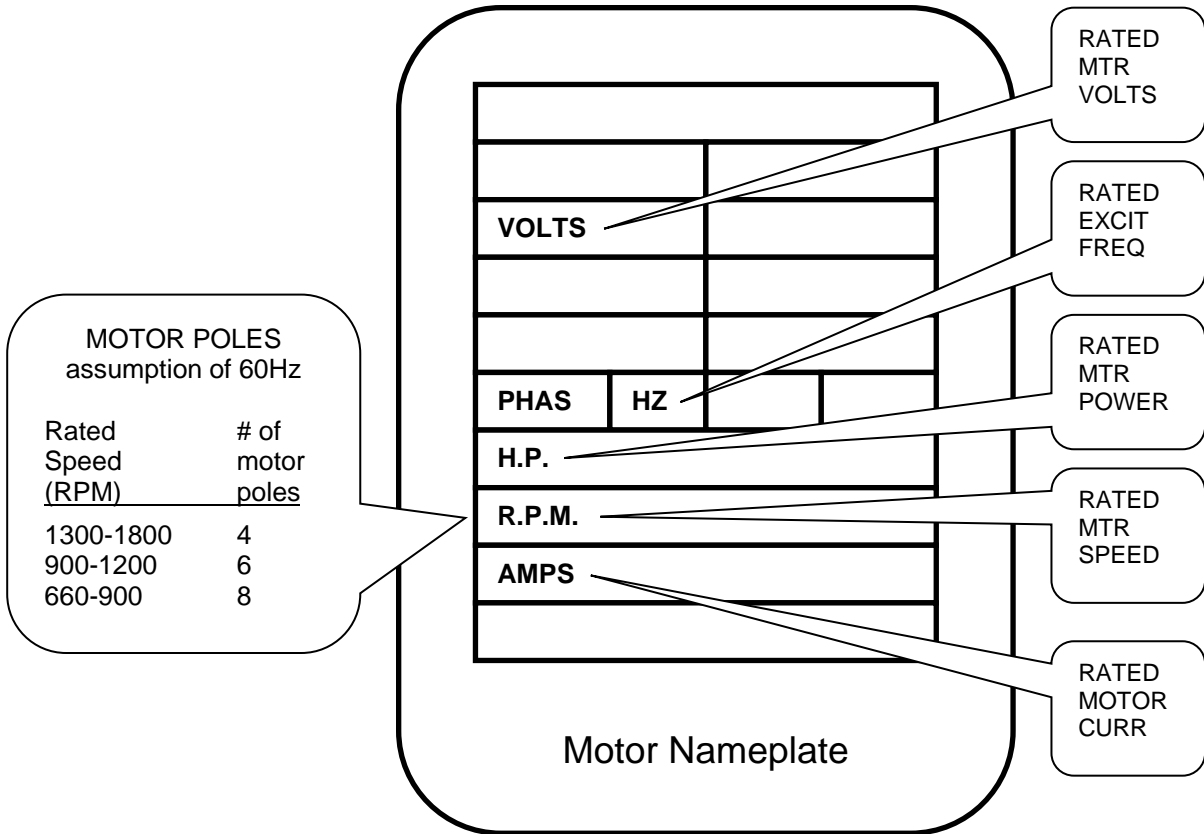

Figure 26: Motor Parameters Entered from Motor Nameplate
The default motor selections for the motor id will place a zero values in the motor nameplate parameters (see Figure 26). This selection will also load nominal values for the other motor parameters listed in Table 21.
- Now, enter the motor nameplate data into the needed motor nameplate parameters (see Figure 26)